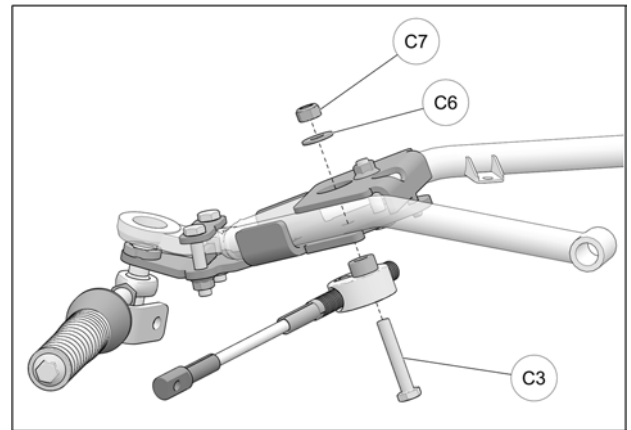

Fig. 21
12. Slide steering limiter cable assembly over bolt (C3) and insert the parts in the central hole under anchor bracket. Pass washer (C6) and nut (C7) down through opening in bracket cover and secure steering limiter assembly to anchor bracket. Tighten nut to 50 N•m [37 lb•ft]. Refer to Fig. 21